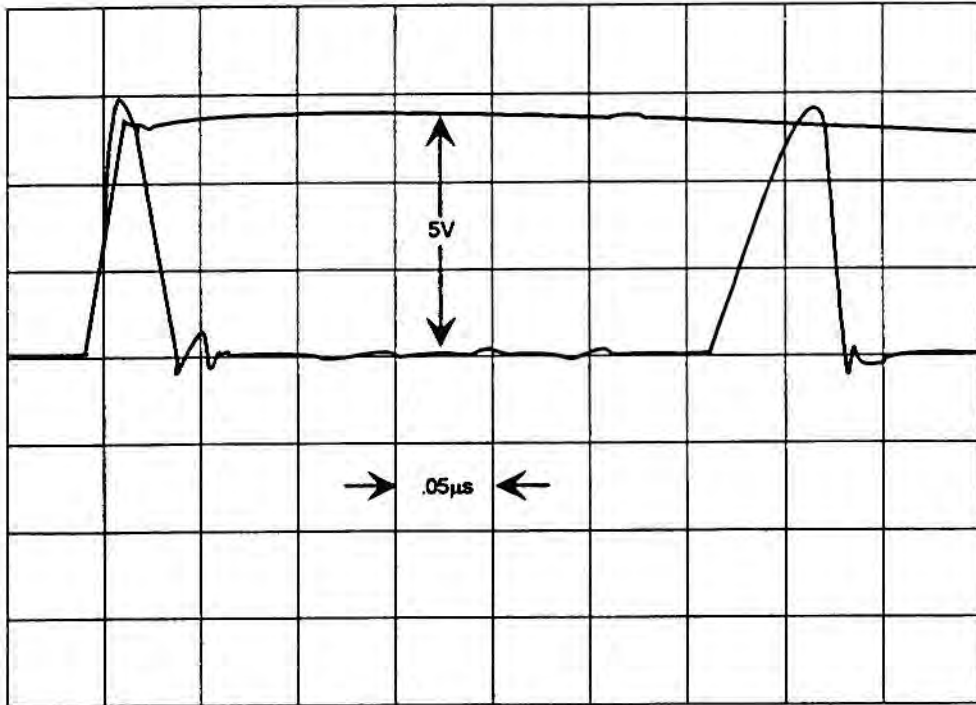

FIGURE 4-9. Typical Signal Trace at U15-Pins 3, 5, 7, 9, 11, 13
- (b) If signal is correct, check output of U15. These are data lines and should be as shown in Figure 4-9. If data lines are not correct an open connection exist between U15 and the microprocessor U31. Repair trace or scrape board.